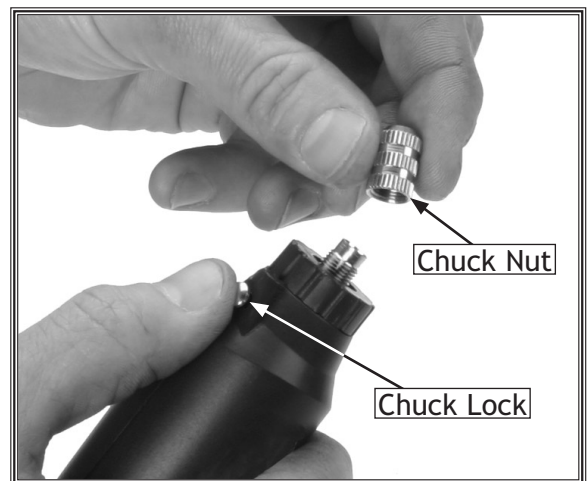

Figure 2. Loosening the chuck nut.
2. Press in the chuck lock. If the chuck lock does not engage, turn the chuck by hand until the chuck lock engages. Loosen the chuck nut, as shown in **Figure 2**.